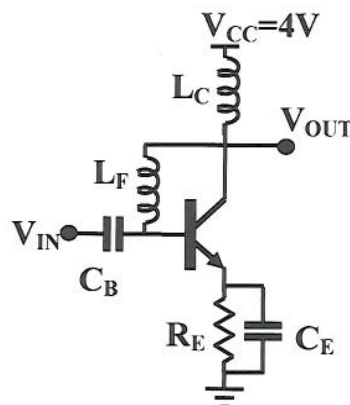

Figure 3.1
3. In this problem you will complete the design of the 100 MHz bandpass radio frequency amplifier shown in Figure 3.1. The following data are given for the transistor: